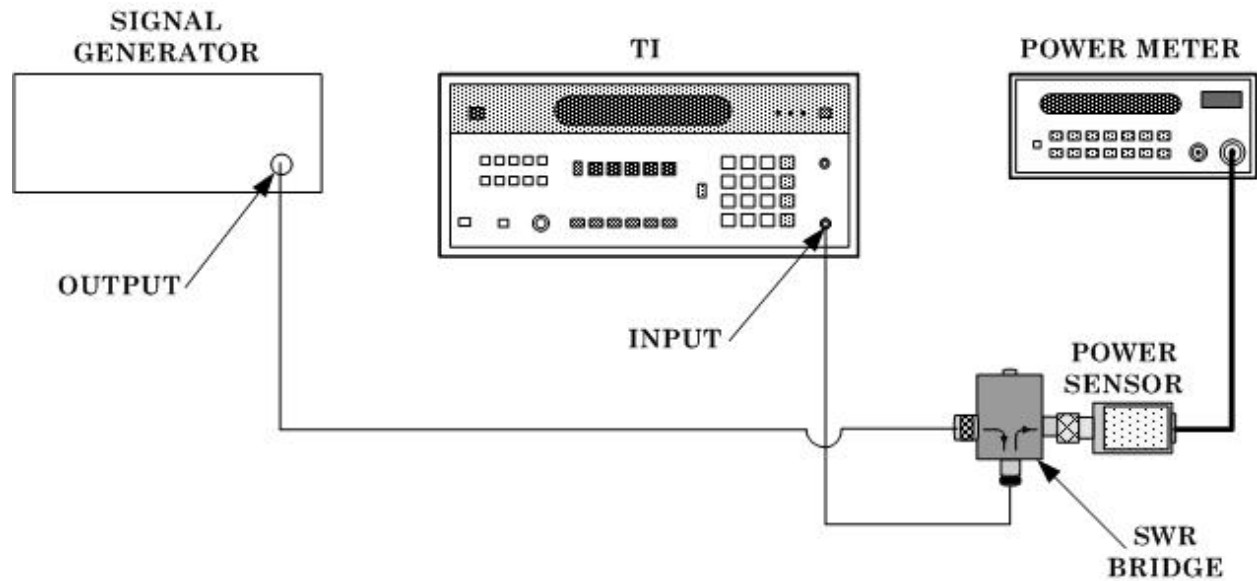

Figure 4. SWR equipment set up.
(8) Connect equipment as shown in figure 4.